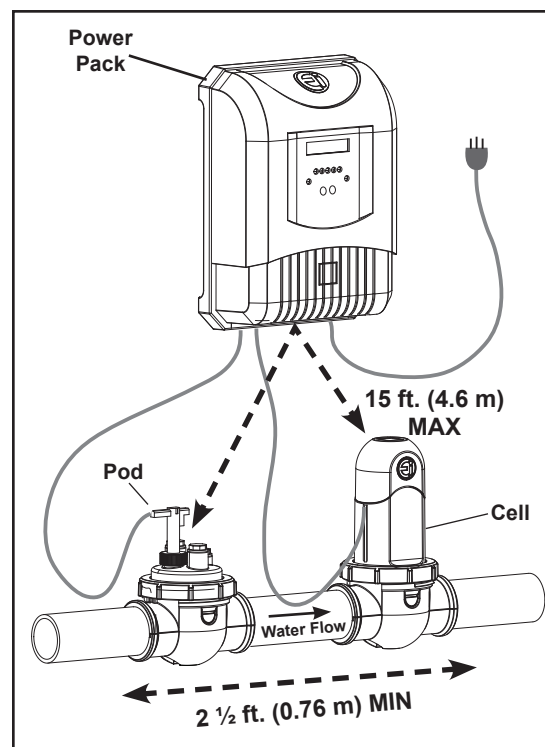

Figure 3. Installation Requirements
It is required that the water flow/salinity pod is installed in the same piping as the electrolytic cell, without any valves or diverters between them (see Figure 3).
The flow/salinity pod must be mounted as shown in Figure 3.
- The cell must be installed on a 2½ ft. (0.8 m) horizontal length of pipe after the heaters, pumps, and filters, as the last piece of equipment in the plumbing system (see Figure 3).
- The cell and pod must be installed no more than 15 ft. (4.6 m) from the power pack (see Figure 3).